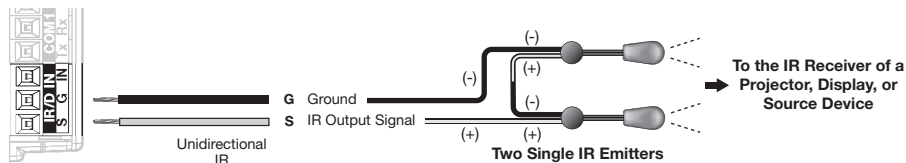

Figure 4. IR Connector
2. Connect two wires to the IR port (see figure 4). If both the IR port and digital input are used, the ground pin must be shared by both devices.